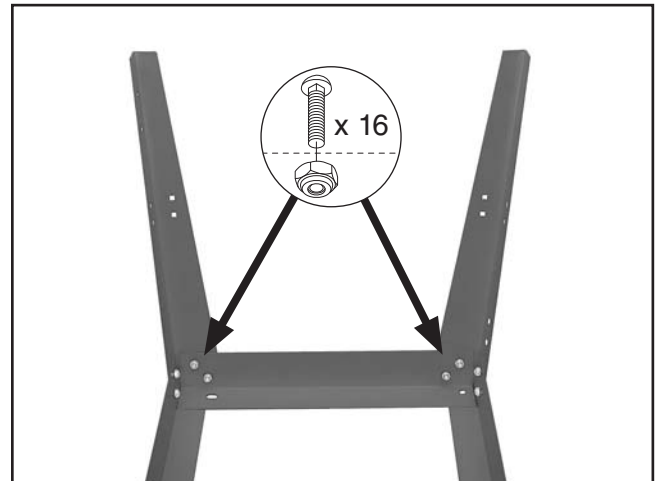

Figure 5. Legs attached to the top braces.
1. Position the top braces upside down on a protected surface in the form of a rectangle, then attach the legs to the braces with (16) M8-1.25 x 12 carriage bolts and M8-1.25 lock nuts, as shown in **Figure 5**. Hand tighten all fasteners for now. They will be fully tightened in **Step 4**.